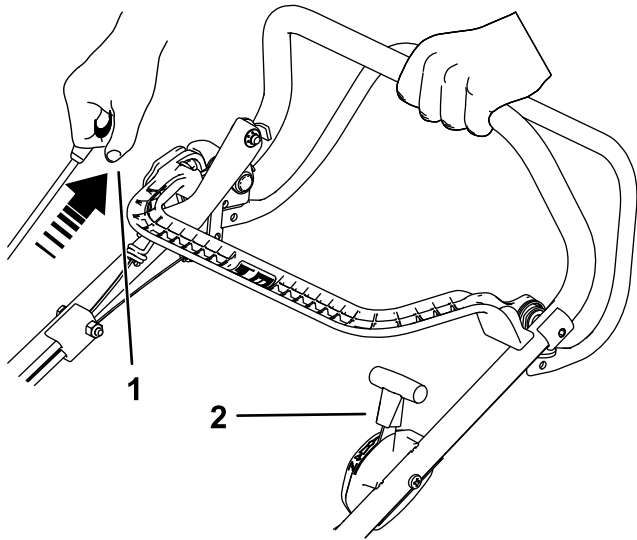

Figure 15
2. Pull the recoil-start handle until you feel resistance, then pull sharply to start. When the engine starts, slowly return the throttle to the FAST position if the choke has been engaged (Figure 15).